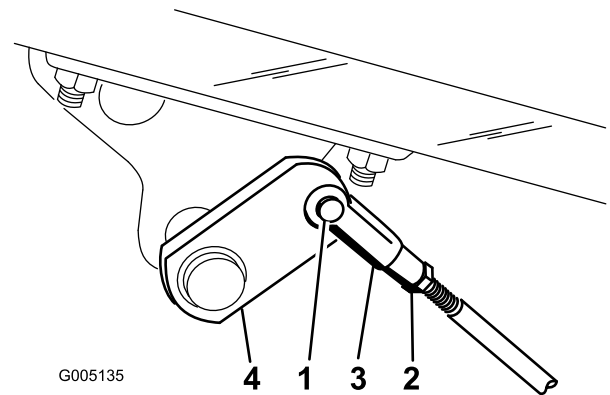

Figure 41
2. If the brakes do not lock equally, disconnect the brake rods by removing the cotter pin and clevis pin (Figure 41).
3. Loosen the jam nut and adjust the clevis accordingly (Figure 41).
4. Assemble the clevis to the brake shaft (Figure 41).